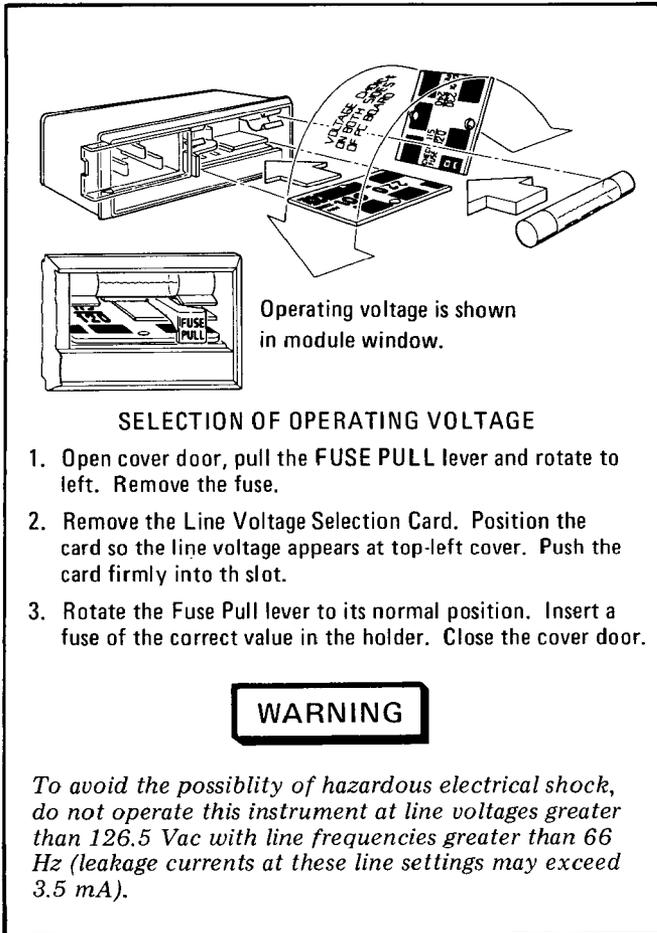

Figure 2-1. Line Voltage and Fuse Selection
Verify that the line voltage selection card and the fuse are matched to the power source. Refer to Figure 2-1, Line Voltage and Fuse Selection. Refer to Paragraph 1-8 for fuse part numbers.
- 9 **Line Power Module** permits operation from 100, 120, 220, or 240 Vac. The number visible in window indicates nominal line voltage to which instrument must be connected (see Figure 2-1). Center conductor is safety earth ground.